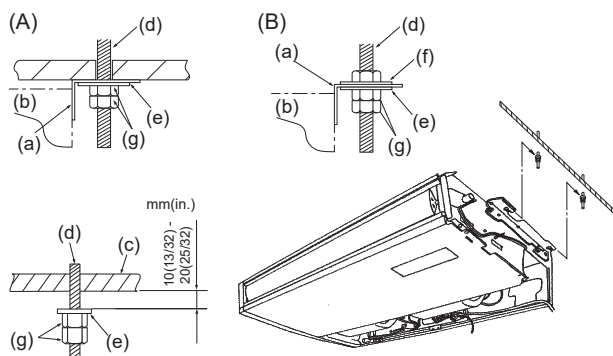

Fig. 3-6
(2) Forcing open the intake grille or opening it to an angle of more than 120° may damage the hinges.
3.3. Installing the indoor unit (Fig. 3-6)